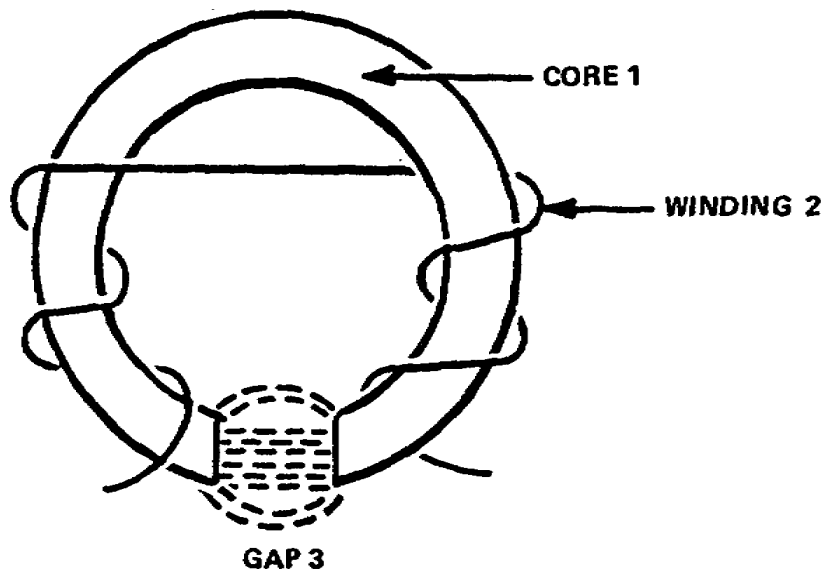

Figure 1-10. Record head
c. The core (item 1, fig 1-10) is shaped like an incomplete ring. The discontinuity forms the gap (item 3, fig 1-10) which is inserted in a coil (item 2, fig 1-10) of wire.